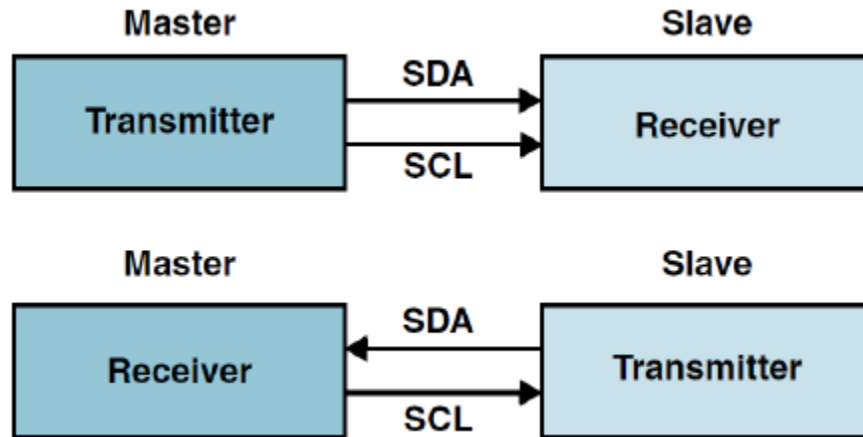

Figure 10 Master/Slave and Transmitter/Receiver Relationships
- Slave. The device addressed by the master. A slave can be either receiver or transmitter. These concepts are illustrated in Figure 10.